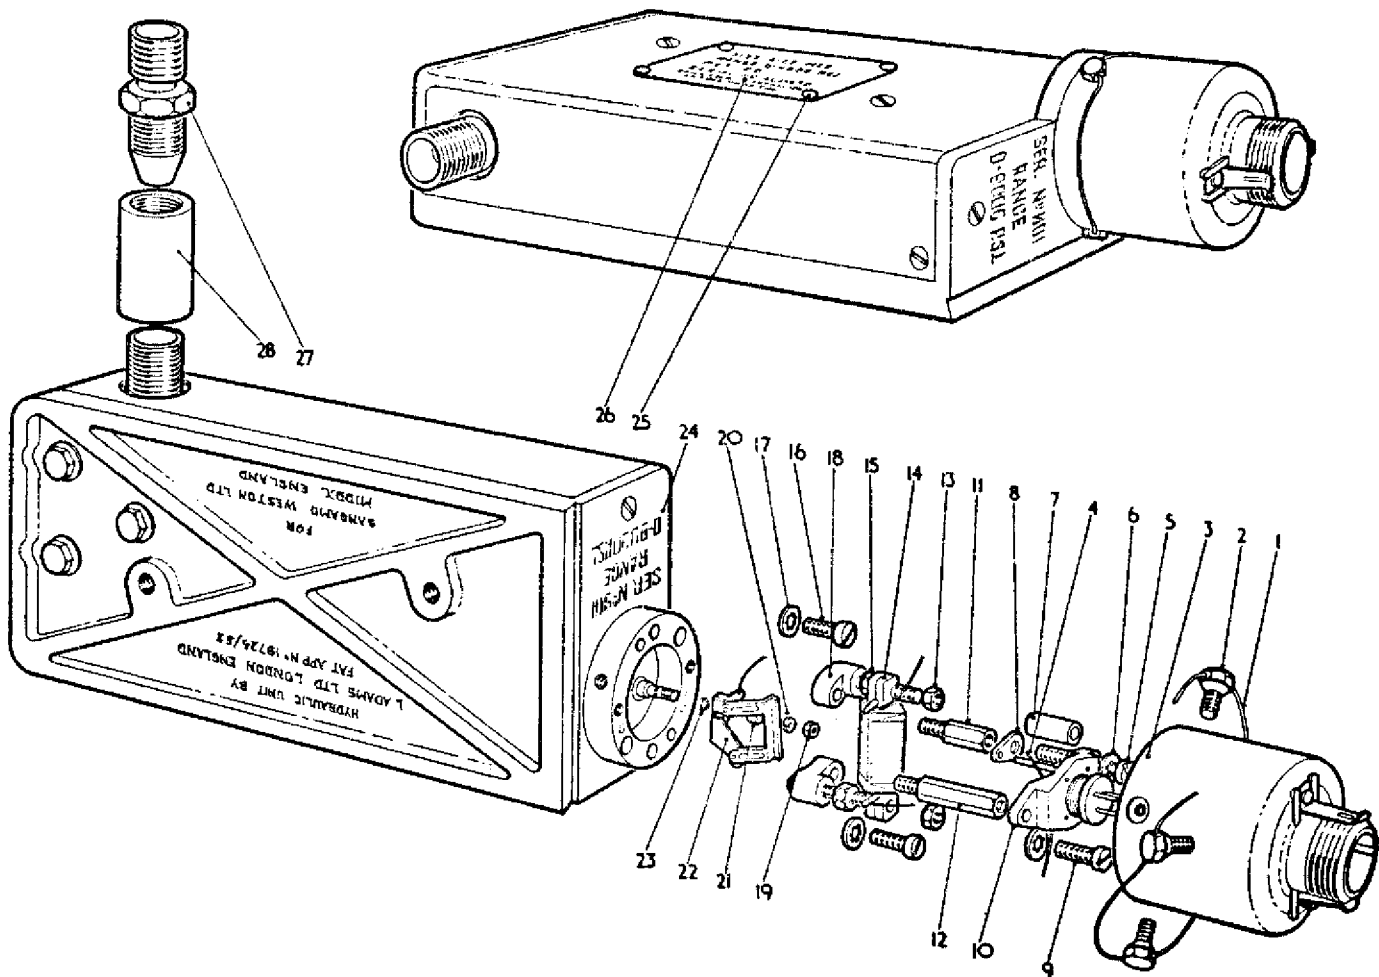

Fig.2. Exploded View of Pressure Transmitter.
C. Procedure (Refer to Fig.2.)
- (1) Cut and remove sealing wire (1) from screws (2).
- (2) Remove the three special 6 B.A. screws (2) from cover (3) and carefully withdraw the cover.
- (3) Unsolder the three ligaments (4) from the resistor holder pins and the plug pins.
KEY TO FIG. 2.
(1) Remove nameplate (26) by withdrawing the four bifurcated rivets (25).
(2) Secure nameplate in position with new rivets.
A. Procedure (Refer to Fig.2.)